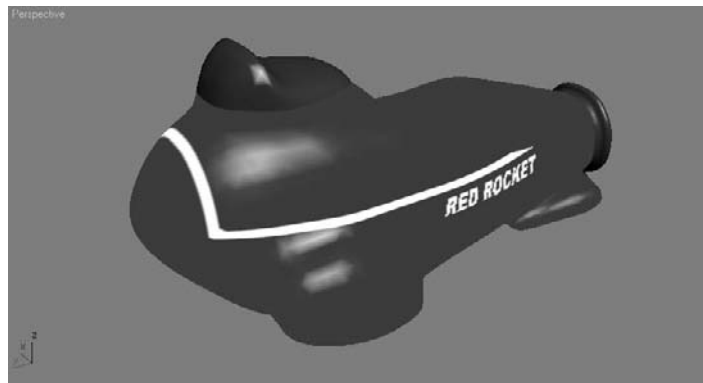

Figure 7.96
13. Go to the Modify Stack, click the Gizmo sub-object, and move the Bitmap gizmo to line up the image with the map on the opposite side of the rocket, as shown in Figure 7.96.